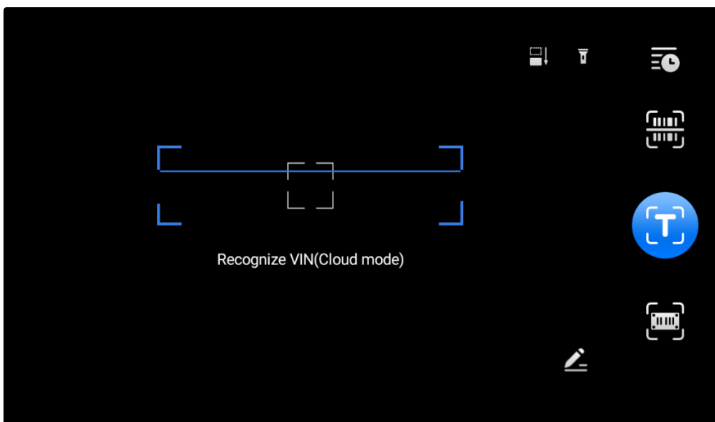

Figure 4-7 Scan VIN/License 1
6. If the VIN, license number or barcode cannot be scanned, you can manually input it. Tap the  button on the bottom-right corner of the screen (see Figure 4-7 Scan VIN/License 1) to display the Enter VIN screen. Enter the correct VIN number and tap **OK** to continue.